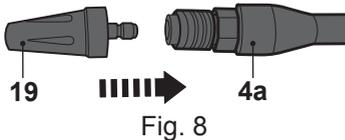

Fig. 8
- > Align the rotary nozzle (19) with the nozzle connection port (4a) of the pressure lance (4) and push it until it snaps in place (Fig. 8).